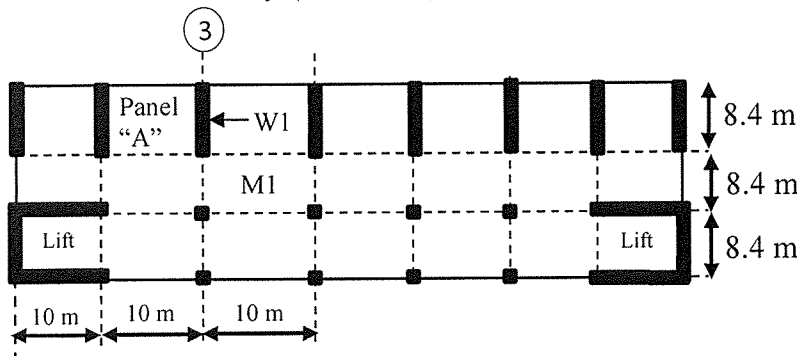
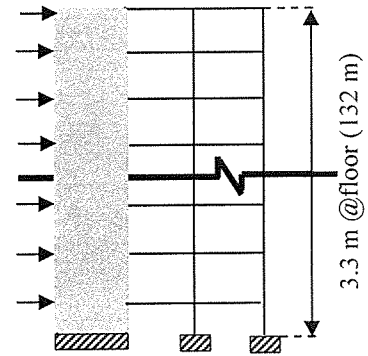

Figure 1. Structural model (floor plan) of tall building
Figure 2. Frame of grid 3
- a. The conceptual structural model of a 40 storeyed office building (2.4 kN/m^2) and wall / column grid spacing are shown in **Figure 1**. The structure is critical for wind load (average wind pressure is 3 kN/m^2 for 1- 20th floor, and 4 kN/m^2 for 21-40th floor). Analyze the frame of **grid 3** (shown in **Figure 2**) using portal method due to wind load to obtain maximum bending moment and shear force at ground floor of shear wall **W1**. Assume that the shear force would be sustained by the shear wall only. [15]
The floor of the structure as discussed in **Question 2** would be constructed using one way joist slab. Design the interior joist for the slab panel "A" as shown in **Figure 1**.
The foundation of the structure (**Question 2**) would be mat with pile. In accordance to compressive load and capacity of pile, show the layout plan of piles. Design the interior panel of mat (M1) for long span only as shown in **Figure 1**. Assume design parameters to design the mat.